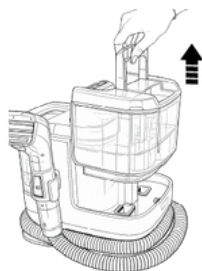

Fig. 20
2. Remove the dirty water tank (Fig.20) and carry it to a sink, toilet or outside (where you will dispose of the dirty water).